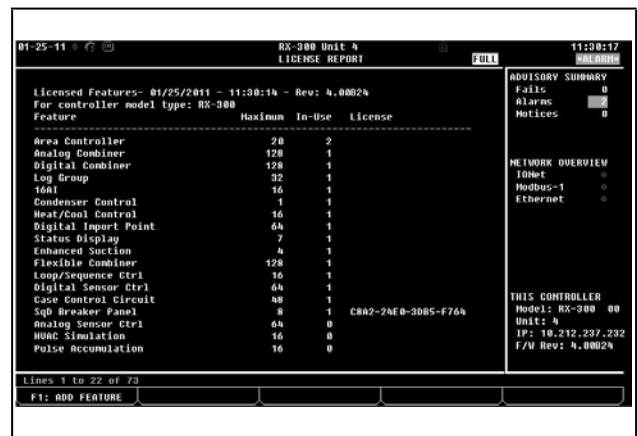

Figure 10-35 - License Report Screen
4. Reboot the controller and open the License Report screen again to see the license key appear next to the activated feature (**Figure 10-35**):